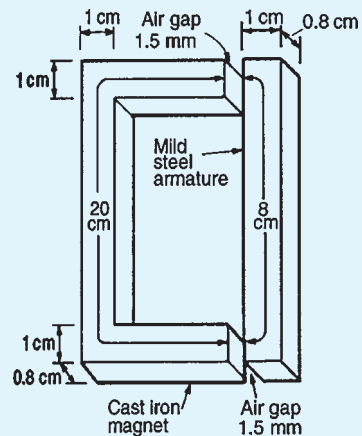

Figure 7.8
6. Figure 7.8 shows the magnetic circuit of a relay. When each of the air gaps are  $1.5 \text{ mm}$  wide find the m.m.f. required to produce a flux density of  $0.75 \text{ T}$  in the air gaps. Use the B–H curves shown on page 74. [2970 A]